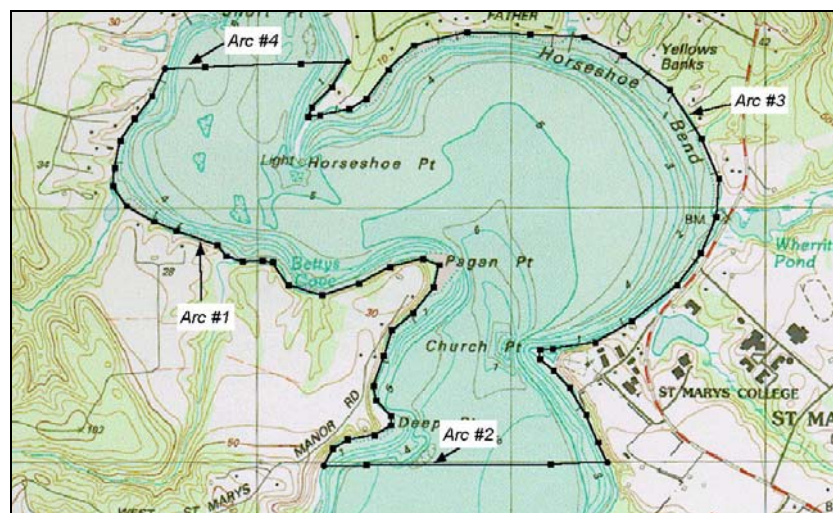

Figure 2-4 All feature arcs have been created.
- In the same manner just described, create the remaining three arcs, as shown in Figure 2-4. Remember to double-click to terminate an arc unless you are terminating at an existing node.